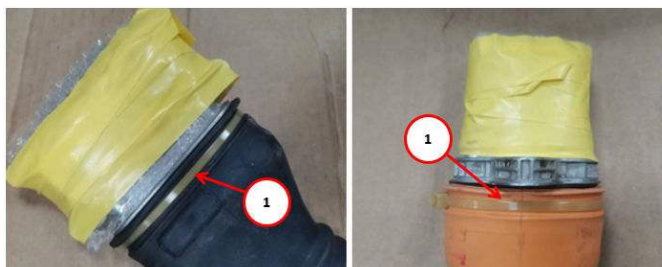

Fig. 2
5. Using a suitable protective cover and tape, protect both ends of the HV cable harness connectors to prevent dust and contaminants from entry Fig. 2.
6. Remove the plastic zip tie on the HV cable harness connector rubber sleeve Fig. 2.